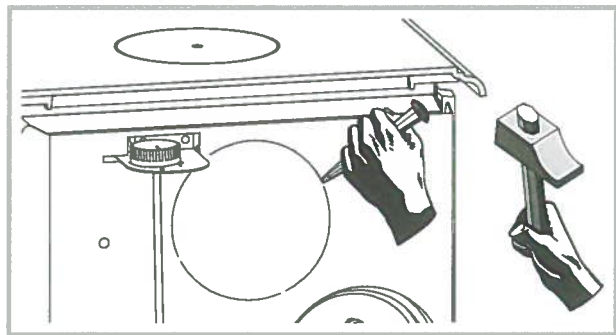

Figure 7 - Back panel
- Remove the rear heat shield and the cut-out on it (fig. 7).